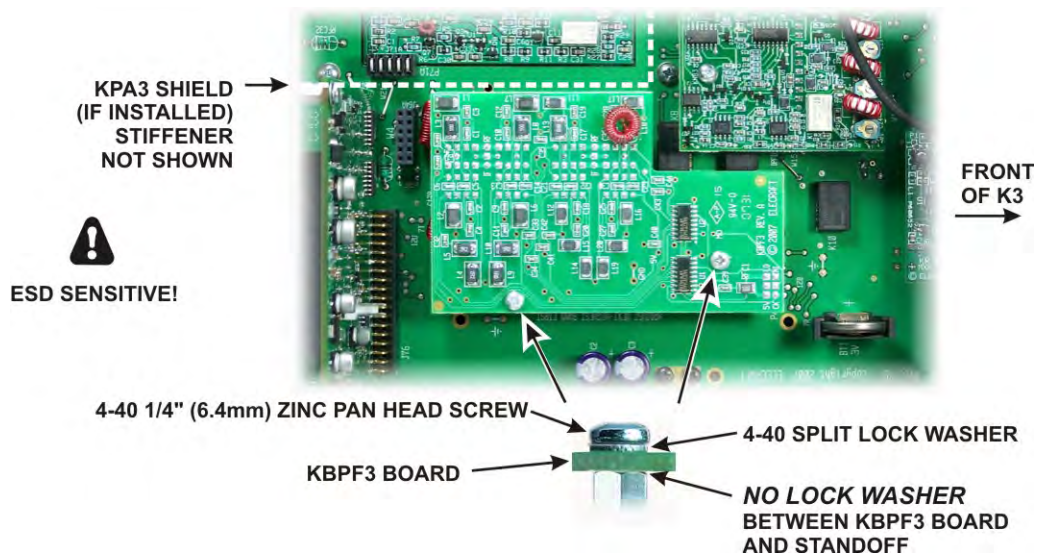

Figure 89. Installing the KBPF3 Option Board.
□ Install the board on the standoffs you installed earlier as shown in Figure 89. The screws and lock washers needed are supplied with your KBPF3 Option kit. There are three connectors on the bottom of the KBPF3 board that must be properly mated to P44A, P44C and P44E on the RF board. Even though the connectors are hard to see if the KPA3 shield is installed, they can be aligned as follows: